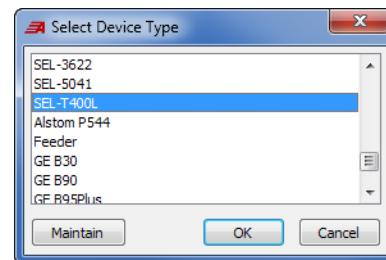

Figure 75 Add SEL-T400L
Step 1. Right-click in the Connection Explorer and select **Add > Device**. Select SEL-T400L, as shown in Figure 75.